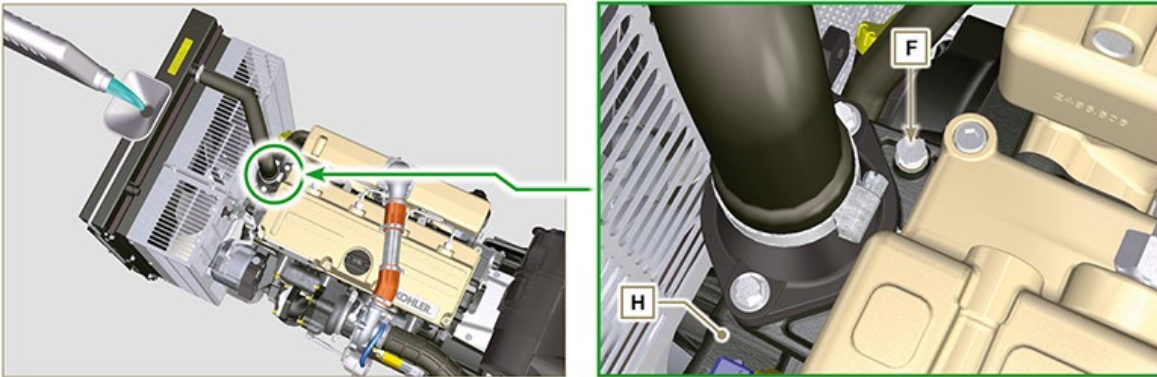

Fig 10.6
5. Loosen the screw **F** on the head **H**, release any air and tighten the screw **F** (Tightening torque of **8 Nm** - Fig. 10.6).